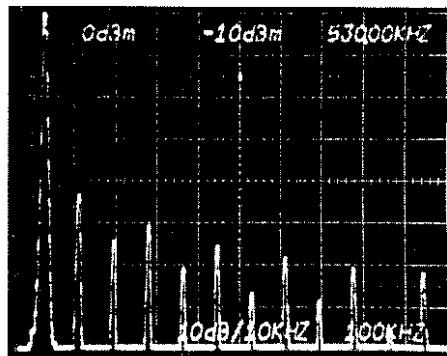

Fig. 4. Display of -10 dBm fundamental and harmonics.
The narrow band filter has some unique characteristics as shown in the illustration of the desired response in Figure 3(A). The actual response achieved is shown in the photo in Figure 3(B). Both curves are in terms of a linear vertical scale. The actual response is also shown in Figure 4 with the vertical scale in terms of dB. The top photo shows the peak-to-peak ripple to be well within the 0.4 dB specification, while the bottom photo shows the filter out-of-band characteristics to be significantly better than the -55dB specification.
Fig. 4. The actual response with the vertical scale in terms of dB. (A) Top photo shows ripple to be well within 0.4 dB specification. Vertical sensitivity = 0.25 dB/div and span is 500 kHz/div. (B) Out-of-band characteristics are better than -55 dB specification. Vertical sensitivity = 10 dB/div and span = 1 MHz/div.
Figure 4 shows a -10 dBm fundamental and over ten of its harmonics. This display was taken with a 7L5 Option 25 in a 7603 Mainframe. The instrument parameters are indicated on crt readout. The left upper position (set at 0 dBm) is tracking generator output—not used in this measurement.